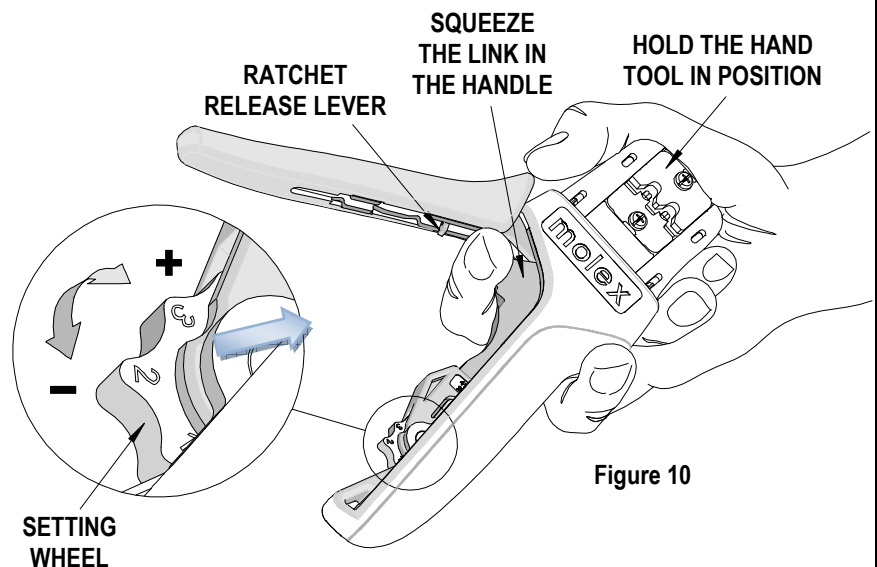

Figure 10
(See Figure 10)
1. Hold the hand tool in the palm of your hand as shown in Figure 10. Using the index finger squeeze the link towards the top of the hand tool frame. This will release the preload adjustment wheel.
2. Rotate the setting wheel counter-clockwise (CCW) to increase handle force. The numbers will display higher. To decrease handle force rotate the setting wheel clockwise (CW).